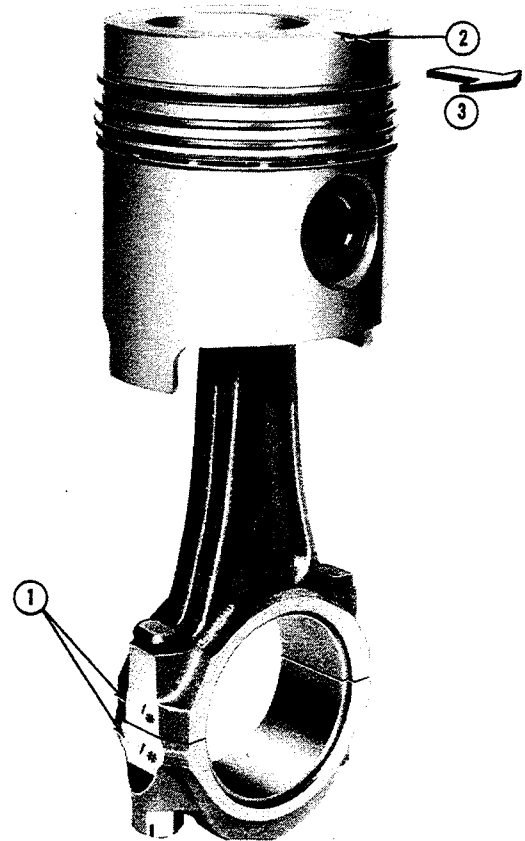

Figure 55
2. Assemble the piston to the connecting rod with the notch on the piston crown and the pin on the connecting rod in line as shown in Figure 55. If a piston is used the connecting rod piston pin bushing may have to be reamed or replaced to provide the specified pin-to-bushing clearance (when properly fitted the pin should rotate snug-